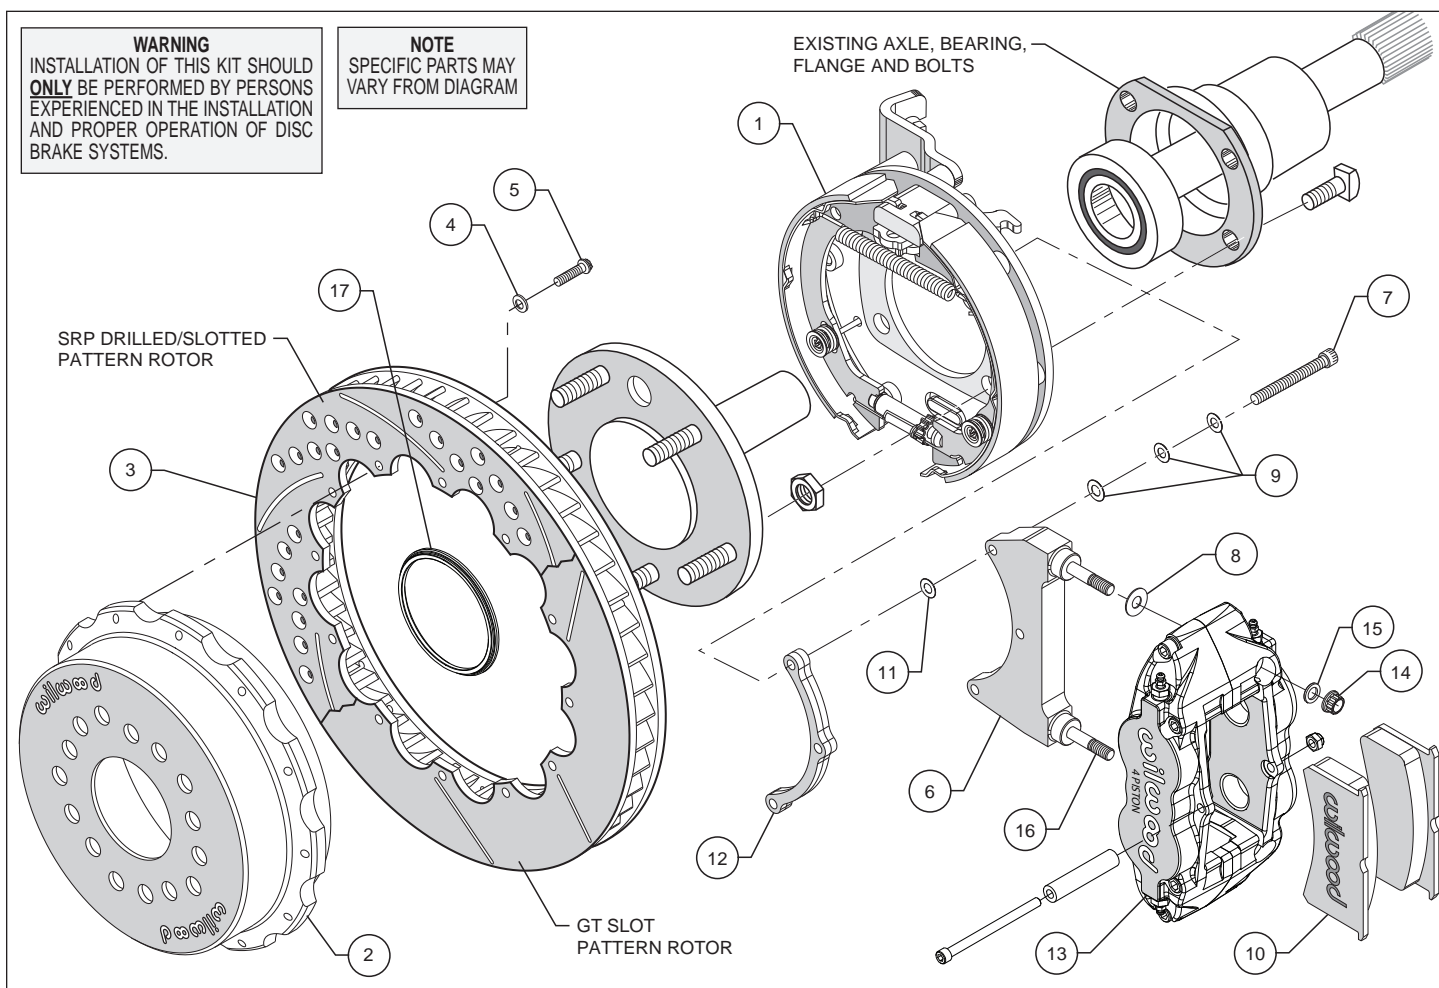

Figure 1. Typical Installation Configuration
- Slide the rotor registration adapter (17) onto the axle register on the axle flange with the smaller O.D. facing toward the rotor/hat (2). Align the correct hole pattern in the hat with the stud pattern on the axle flange. **NOTE:** *Some OEM and aftermarket axles come with stud sizes larger than 0.50" diameter.* Verify stud size and have a qualified machine shop drill the hats to the correct size, if necessary. Slide the hat/rotor assembly (2 and 3) over the wheel studs covering the bracket kit assembly (1) and against the axle flange face. Check to be sure the hat seats squarely against the hub. Install a couple of lug nuts (finger tighten) to keep the rotor/hat assembly in place while continuing with the installation.
- NOTE:** *Please reference the caution statement at the beginning of the assembly instructions.* The caliper mounting bracket assembly (6) should be installed first with clean, dry threads on the mounting bolts (7). Install the bracket from the rear side of the bracket kit assembly (1) by sliding bolt (7) through three flat washers (9), bracket (6), shim washer (11) and finally through the spacer (12), see Figure 1. **NOTE:** *End of bolt should not exceed inside face of insert. The bracket must tighten squarely against the back side of the bracket kit assembly (1).* Inspect for interference from casting irregularities, machining ridges, burrs, etc. Use one thin shim (11) between the bracket (6) and spacer (12) during initial trial fitting.
- Install one shim (8) over each pre-installed stud (16) on the radial mount bracket (6). Slide the caliper (13) in place over the studs and rotor, then install the washer (15) and lock nut (14) to hold the caliper in place. The caliper bleed screws should be pointing up. Snug the lock nuts (14) and check that the rotor (3) is centered in the caliper (13). Add or subtract .015" shims (11) as necessary between the caliper mounting bracket (6) and the spacer (12) to center the caliper (13).
- Remove the caliper center bridge pad retainer bolt, nut, and tube from the caliper. Slide the brake pads (10) into place. They should install easily without interference. Check that the outside radius of the brake pad is aligned with the outside diameter radius of the rotor face. Add or subtract shims (8) between the caliper (13) and mount bracket (6) to gain the proper alignment. Reinstall the center bridge pad retainer tube, bolt, and locknut. The locknut should be snug without play in the bolt or tube. Be cautious not to over tighten.
- Adjust the parking brake shoes outward (using a drum shoe adjustment tool available at your local auto parts store) while spinning the hat (2) until a slight drag is felt against the hat/drum. Remove the lug nuts that were holding the hat/rotor in place. Install the wheel and lug nuts. Check to see that the wheel rotates freely without interference.
- Once all clearances have been checked, remove the wheel, caliper, hat/rotor from the bracket kit assembly (1). Secure the caliper mounting bracket (6) to the bracket kit assembly (1) using red *Loctite*[®] 271. Torque bolts (7) to 180 **in-lb**. Reinstall the hat/rotor assembly and again use lug nuts to hold it in place. Lubricate caliper mounting studs and nuts with lightweight oil, reinstall the caliper, torque the caliper nuts (14) to 30 ft-lb.
- NOTE:** *Clevis and cable kits which attach to the parking brake assembly are not included in the Wilwood parking brake kit.* Wilwood offers a generic style parking brake cable kit, P/N 330-9371 for this application which can be ordered separately from your local Wilwood dealer or by calling Wilwood customer service at (805) 388-1188.